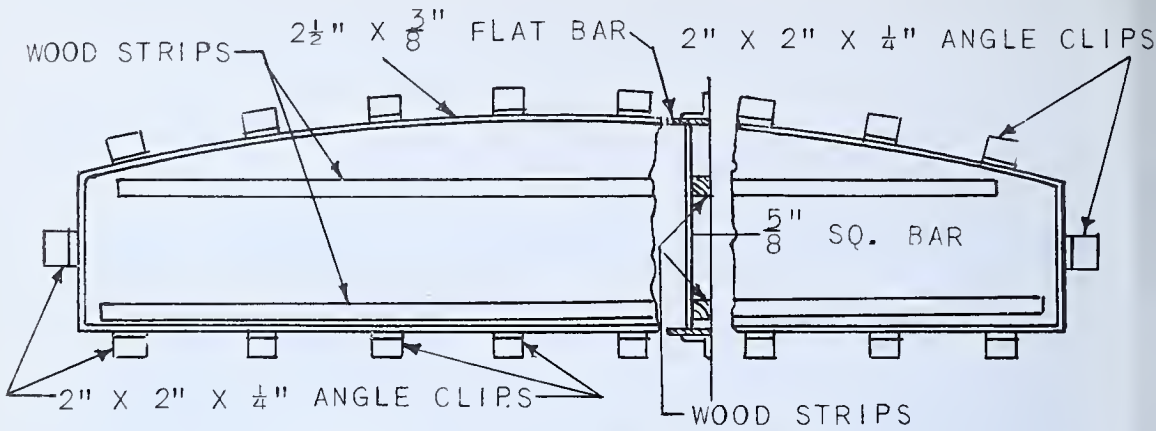

FIG. 596 — *Jig for Assembling Gratings*
56. With template made by the boilership layout man, make a jig for assembling gratings as shown in Fig. 596.
58. Place two strips of wood the correct height as shown in Fig. 596.
59. Place grating bars previously cut to correct size on top of wooden strips and over set marks seen in Fig. 596 and weld.